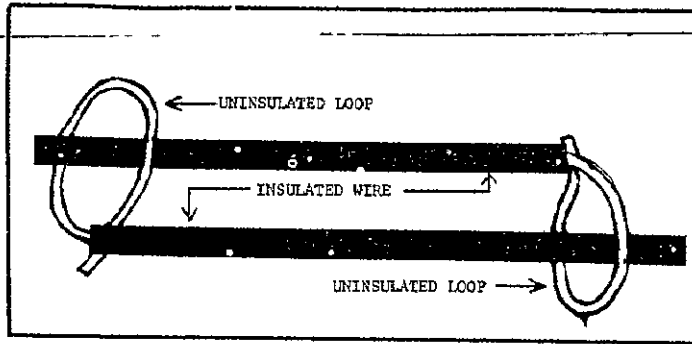

Figure 74. Open loop.
e. Open Loop. The open loop arrangement shown in figure 74, is the only break in an otherwise complete electrical circuit. A wide variety of actions on the part of the victim could result in pulling the two bare ends of the wire together.